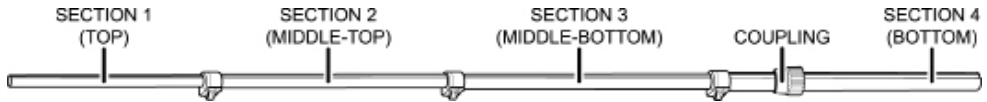

FIGURE 1
The Telescopic Pole is made up of four sections (FIGURE 1):
1. Locate COUPLING on SECTION 4 of Telescopic Pole. The Telescopic Pole is packed with COUPLING already on SECTION 4 – if the COUPLING has fallen off, simply slide it back on as shown in FIGURE 1.